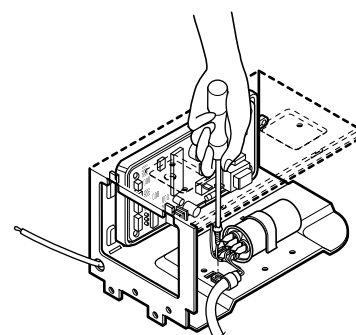

Figure 30
5. Remove a screw which fastens the clip cord. (See Figure 30)